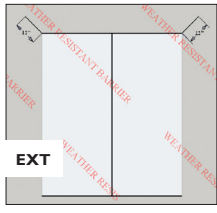

FIG. 2
- Cut the weather-resistant barrier (WRB) in a "Modified I" pattern. (Fig. 2)